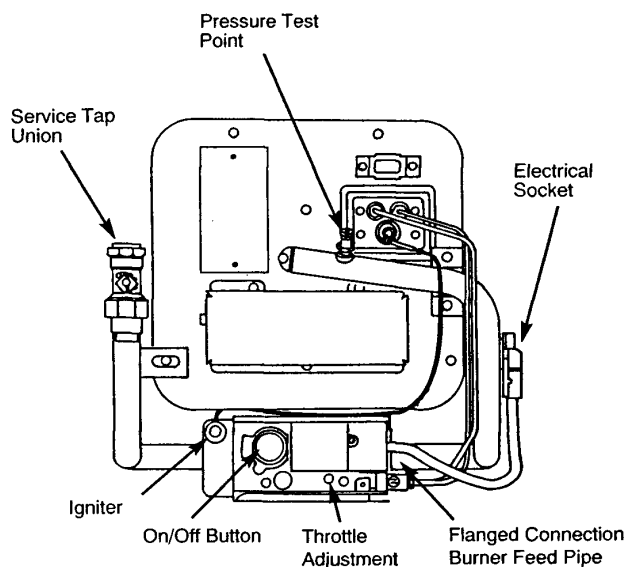

fig 7 - Burner Controls
- 4) Turn off the gas supply at the service tap and disconnect the union (Fig 7).
- 5) Disconnect the electrical socket by pulling upwards (Fig 7).
- 19) Hold in the grey on/off button on the gas control valve (Fig 7). Press in the igniter button and release. Repeat until the pilot lights. Hold in the on/off button for a further 20 seconds and then release. The pilot should then stay alight.
- 21) Remove the pressure test point screw (Fig 7). Connect a pressure gauge and operate the burner by turning the thermostat knob to its highest setting.
- 22) Check that the pressure corresponding to the range rated output is correct for the installation (see data label). If necessary adjust the appliance throttle (Fig 7).
- 7) Remove the valve complete with the heat shield and inlet pipe by disconnecting the flanged burner feed pipe (Fig 7).